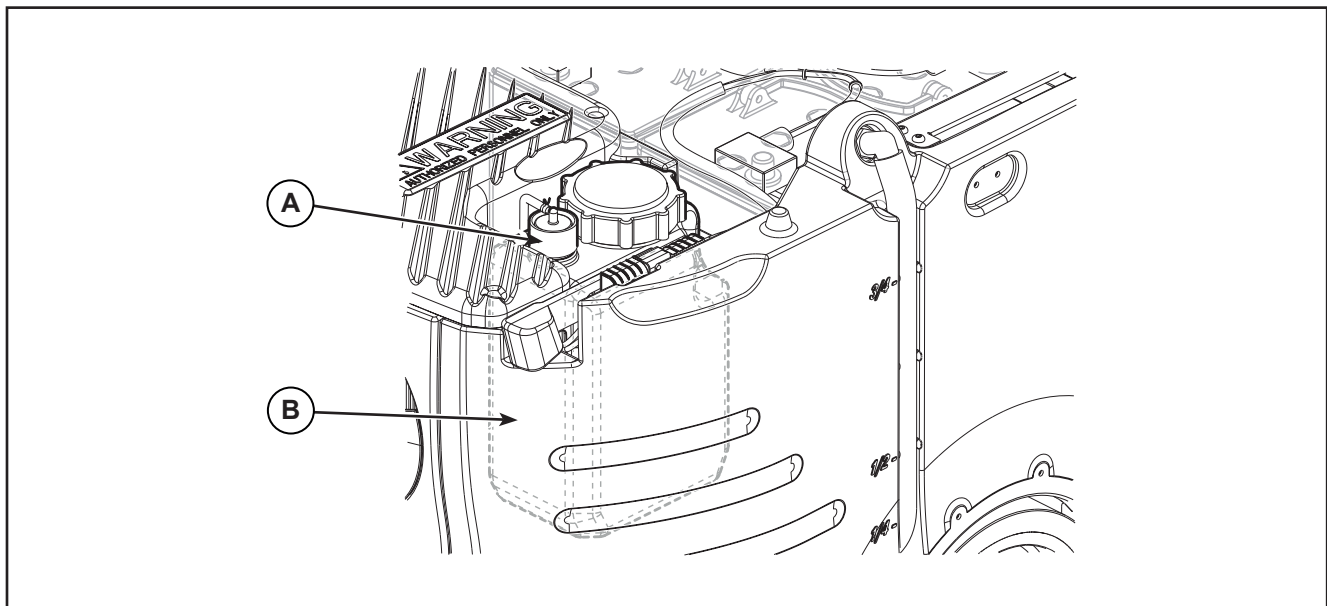

Figure 8:
2. Ensure that the machine is off and the operator key (41) has been removed.
6. Unscrew the plug (A, Figure 8) from the detergent tank (B).
9. Replace the detergent tank (B) as shown in the figure, then refit the plug (A).